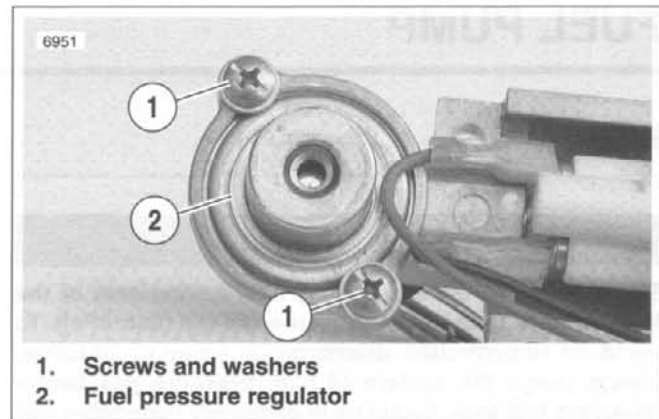

Figure 4-97. Fuel Pressure Regulator
2. See Figure 4-97. Remove two screws and washers (1) holding fuel pressure regulator (2) in place. Detach regulator from pump housing.
5. Install screws and washers (1). Tighten to 15-20 **in-lbs** (1.7-2.3 Nm).